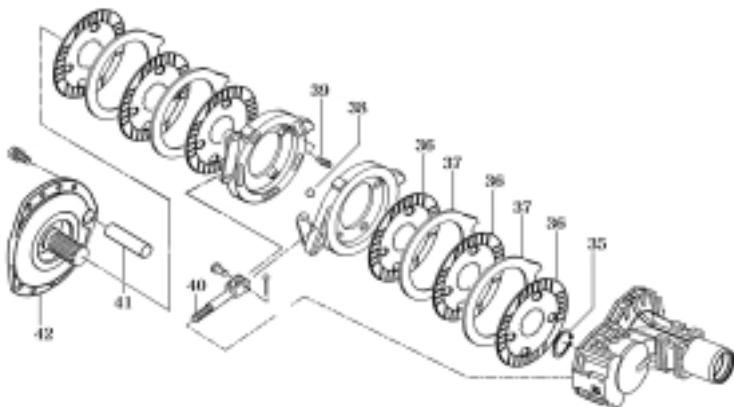

Fig.7-6
- 6) Remove the brake metal tightening bolts and remove brake metal(42) with wheel pinion and the disc brake assembly on it
- 7)Remove the snap ring(35) of wheel pinion(10) (Fig.7-6) And individually separate the friction plates,actuator and separator plates from each other.